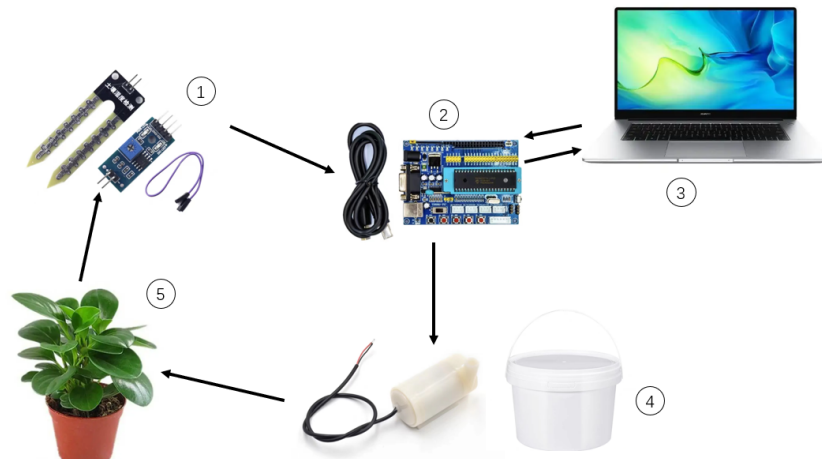

Figure 1: Schematic Diagram
In this project, PIC32 development board is the core of the whole system which will control and be connected to several peripherals such as humidity detector and water valve. The schematic diagram is shown in Fig. 1. Humidity detector ① will detect the humidity in the soil and send the signal to PIC32 micro-controller ②. After receiving the signal, the micro-controller will sample the signal by Analog to Digital Converter (ADC). Next, the micro-controller will decide whether the humidity has gone below a certain threshold. If so, it will send a Pulse-width Modulation signal (PWM) to the water valve ④ connected to a water tank, and water will be dripped to the plant. In this process, the duty cycle of PWM signal will determine the openness of the valve and the water flow rate. Besides, the micro-controller will transfer the humidity from memory to UART Transmit Buffer using Direct Memory Access (DMA) module and the humidity will finally be received by laptop ③.